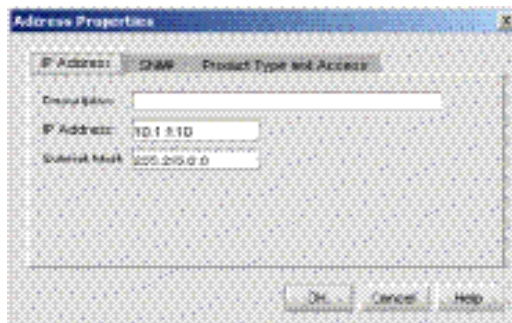

Figure 4-22 Address Properties Dialog Box
- c. Select (highlight) the entry representing the reset switch in the *Available Addresses* window and click *Edit*. The *Address Properties* dialog box appears (Figure 4-22).